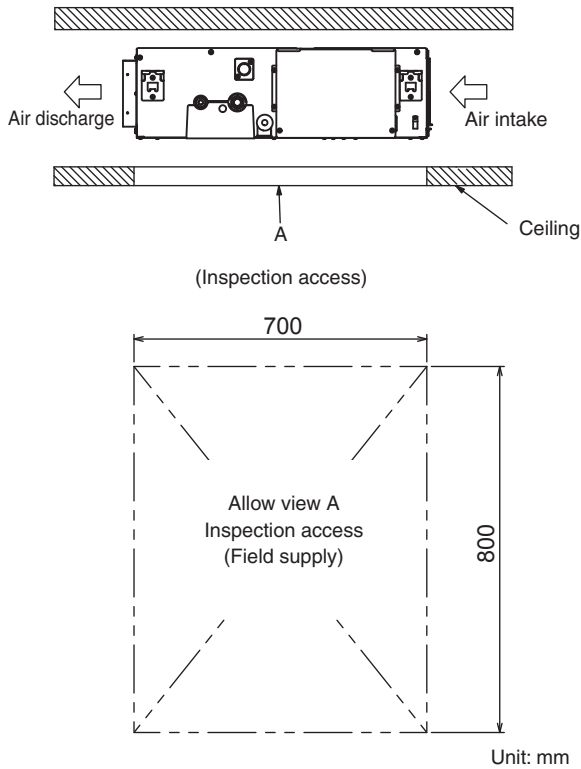

Fig. 3-56
- (1) Confirm the positional relationship between the unit and suspension bolts. (Fig. 3-56)